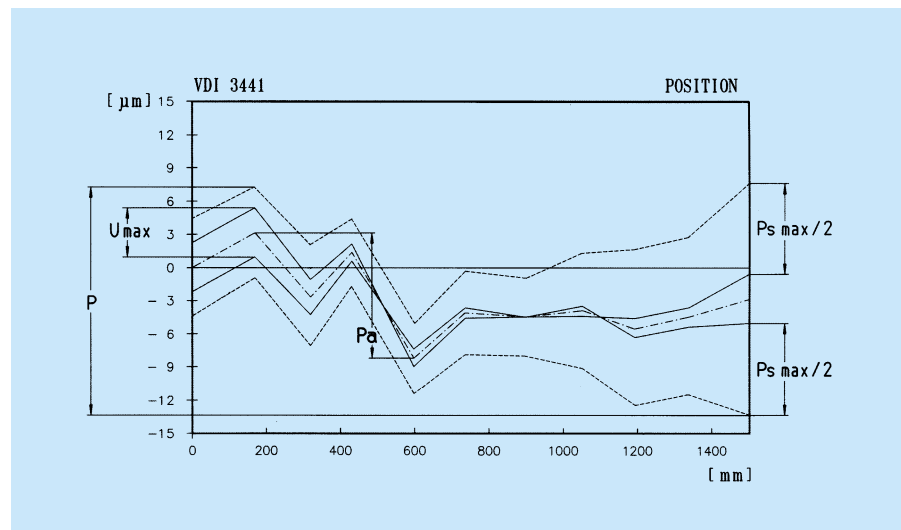

Fig. 18
1.2 Positioning uncertainty P (Fig. 18)
1.3 Backlash width (Fig. 18)
1.4. Positioning variation Ps (Fig. 18)
1.5. Positioning deviation (Fig. 18)
From these individual measurements, which are statistically assessed in accordance with VDI/DGQ 3441, the following parameters **P**, **U**, **Ps** and **Pa** are calculated and assessed in graph form (Fig. 18).